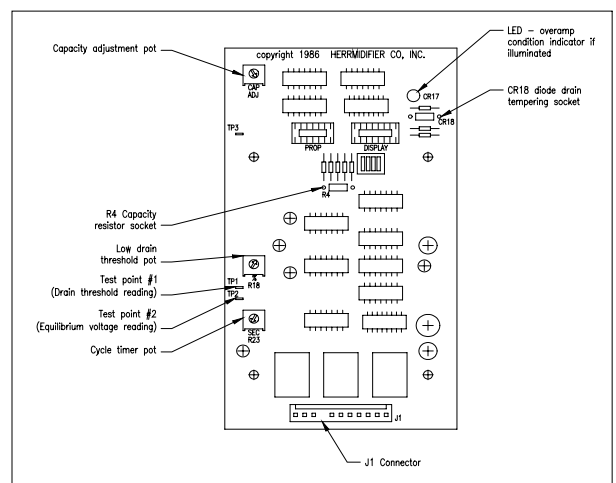

Figure 12
10. All units are equipped with a drain-tempering feature which mixes cold fill water with the hot drain water to protect drain piping. Depending on your fill water pressure, some adjustment of the fill metering valve may be necessary to insure drain water of less than 140 degrees F (See Figure 9). To deactivate, remove diode from socket CRI8 from circuit board (See Figure 12).
Each circuit board (See Figure 12) features three test points to aid in the troubleshooting process. Each of these test points works on a 0-4 VDC scale. "0 VDC" = 0%. "4 VDC" = 100%. All readings are between the test point and ground (Molex J1, terminal 11 [far right of molex connector, hours wire #11]).
Check water supply. If it is softened, increase the drain threshold pot, "% adj." (R18), up to 92%. (See Figure 12)